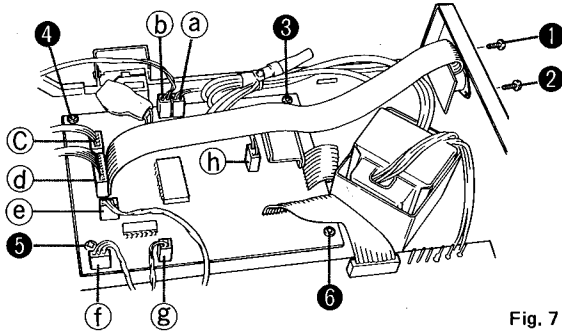

Fig. 7
2. Remove the remote control socket P.C. board and its connector from the rear panel (screws 1 and 2 in Fig. 7).
1. Disconnect connectors f and g on the logic control P.C. board. (See Fig. 7.)